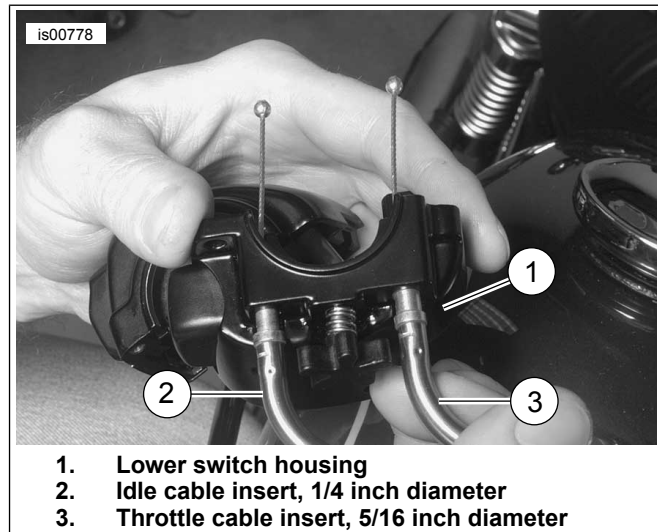

Figure 3. Idle/Throttle Control Cable Connections to Switch Housing
8. See Figure 3. Pull crimped inserts, at end of throttle (3) and idle (2) control cable housings from lower switch housing (1). For best results, use a rocking motion while pulling. Place a drop of light oil on retaining rings, if necessary. Remove cables from switch housing.